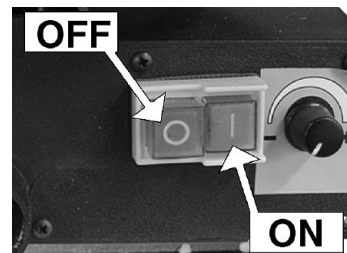

Fig. 18: ON / OFF Switch
Step 8: Switch on the saw by pressing the green START button (Fig. 18).